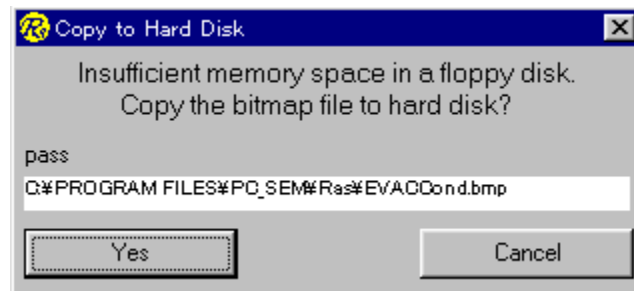
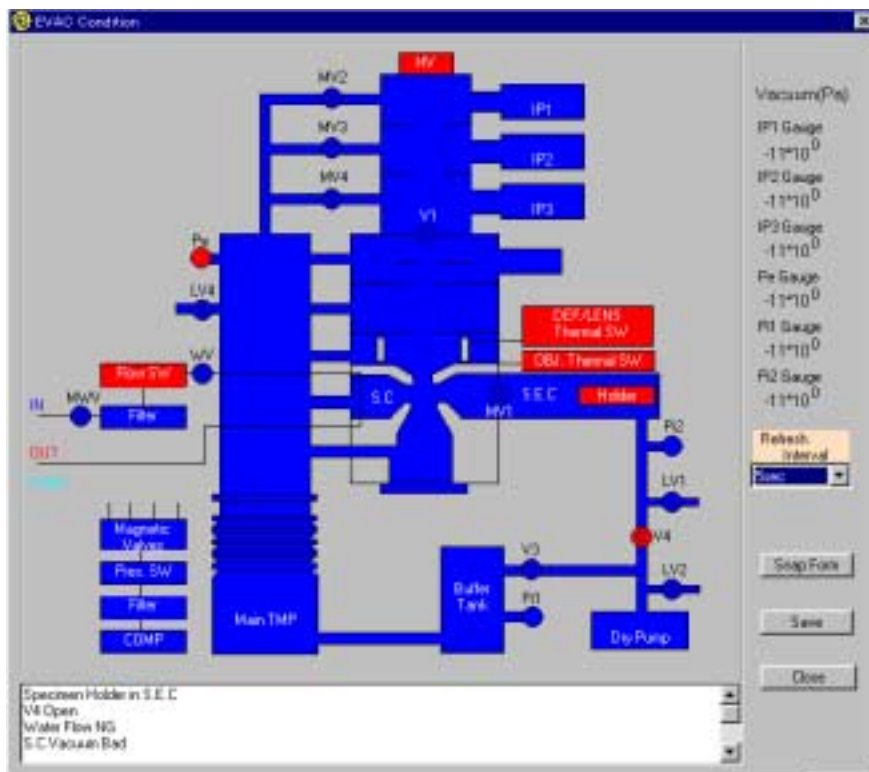

Figure 8-3: Bitmap File Copy
Figure 8-4: TMP is Standard
1. Clicking on the Main Screen - [Display EVAC Condition] button brings up the screen shown in **Figures 8-4** and **8-5**. This button cannot be pressed if a connection to the VRT failed in C (1) above,
2. The screen display varies, depending on whether the pump being used is a DP or a TMP (**Figures 8-4, 8-5**). Pump settings can be changed on the main screen [more on this later in **C (15)**].
4. Pressing the [Snap Form] button causes the screen to be generated as a bitmap file and saved on a floppy disk, in which case you need to have a floppy disk handy. If there is not enough available space on the floppy disk, a “Copy the bitmap file to hard disk?” message (**Figure 8-3**) appears. Pressing the [Yes] button causes the file to be saved in the directory *c:\Program Files\Pc_sem\Ras* with the file name *EVACCond.bmp*. Pressing the [No] button returns control to the screen shown in **Figure 8-4** or **8-5**.